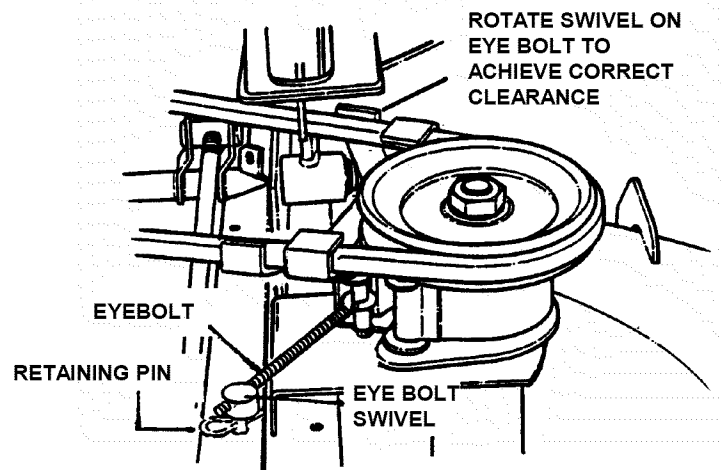

FIGURE 4.2
The automatic Blade Brake should stop the blades within 3 seconds anytime the blades are disengaged by moving blade lever to the "OFF" position or by releasing the Blade Pedals. When the Blade Brake is properly adjusted there should be 1/16" to 1/8" clearance between the Blade Engagement Lever and the back of the Latch Plate. Check this by disengaging the Blade Lever and depressing the Blade Pedals as shown in Figure 4.2. If clearance is greater than 1/4" perform the following adjustment.
2. Remove retaining pin from eye bolt swivel. Lift swivel out of deck rail. See Figure 4.2.